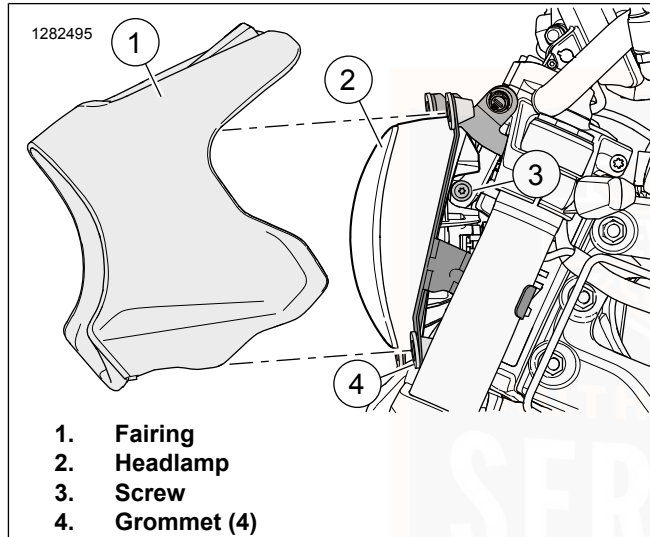

Figure 61. Headlamp Adjustment
1. See Figure 61. Remove fairing (1).
2. Loosen vertical adjustment screw (3).
4. Tighten vertical adjustment screw (3)